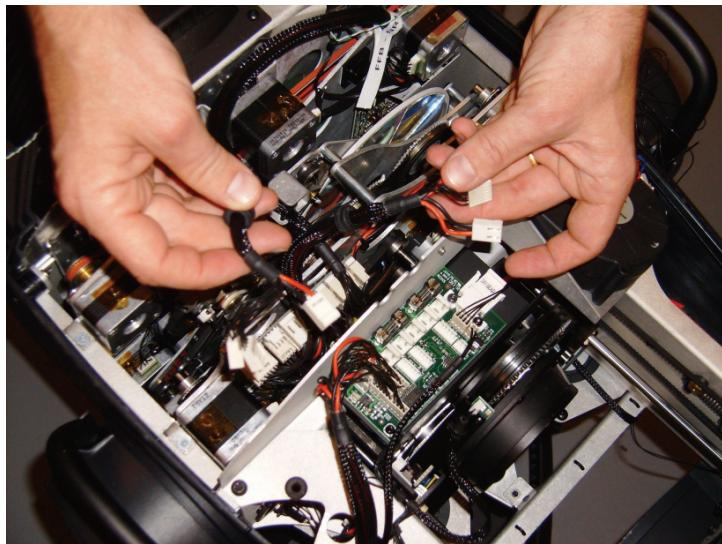

Figure 3
5. See Figure 3. Note carefully the positions of the connectors from the projection (gobo/color wheel) module and the CMY module at the back of the fixture, then disconnect them.